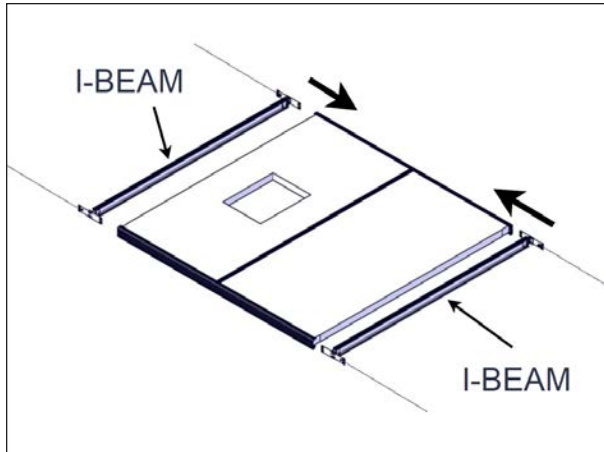
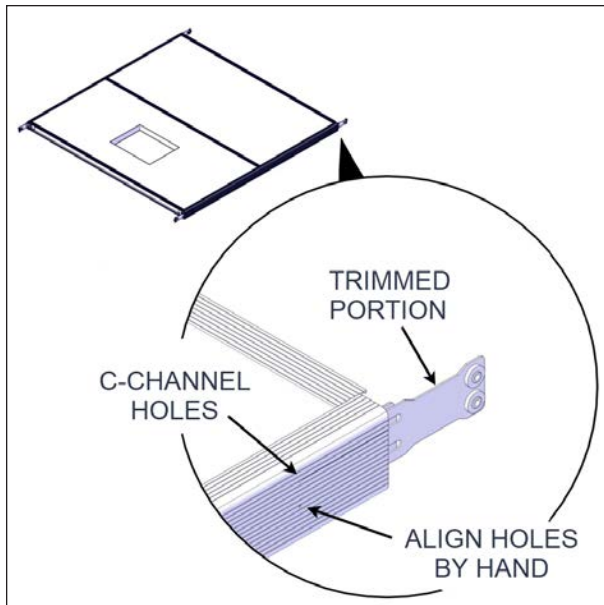

FIGURE 44: INSTALL BOTH I-BEAMS WITH LONG I TO C CONNECTION PLATES
FIGURE 45: TRIMMED PORTION ORIENTATION
- Install both I-beams with the long I to C connection plates. Ensure the trimmed portion of the I to C connection plate faces toward the end of the cover, see Figure 44 and Figure 45.
- Align by hand the C-channels (left and right sides) in such a manner that the I to C connection plate holes are visible behind the C-channel, see Figure 45.